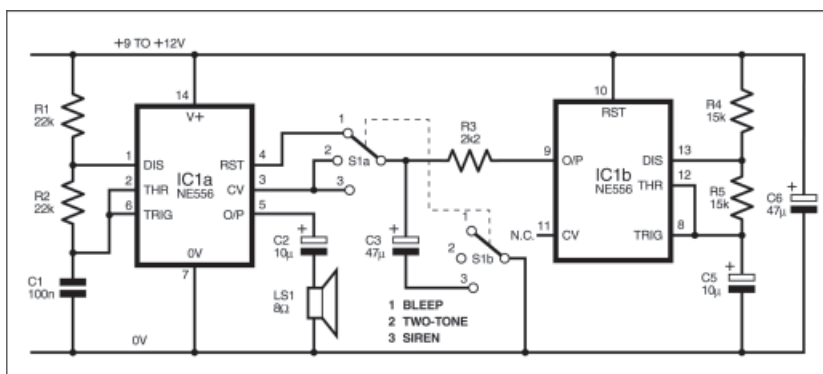

Fig.1. Circuit diagram for the switched-tone Mini Siren.
The siren effect is easy to achieve by using a 556 twin timer i.c. In the circuit diagram shown in Fig.1, IC1a is an oscillator driving a loudspeaker LS1 with a fixed audio frequency. A low frequency oscillator, IC1b, is connected to the control voltage (CV) terminal of IC1a via switch S1.